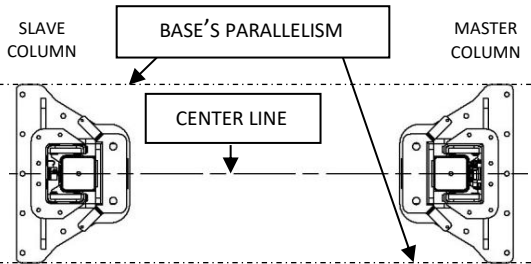

FIGURE 9 : ALIGNMENT ON THE SAME AXIS AND PARALLELISM
NOTE : IT IS STRONGLY RECOMMENDED TO INSTALL THE COLUMN AS SEEN OF **FIGURE 9** (MASTER COLUMN – VEHICLE PASSENGER SIDE) TO FACILITATE THE USER'S MOVEMENT WHILE USING THE LIFT. COLUMN INVERSION MAY BE MADE ACCORDING TO THE USER NEEDS.
4.2 VERIFY THE BASE'S ALIGNMENT ACCORDING TO THE CENTER LINE AND BASE'S PARALLELISM. SEE **FIGURE 9**.